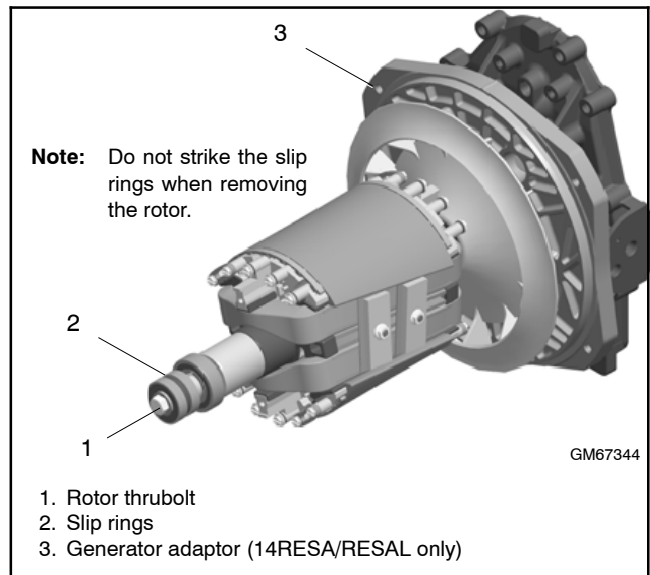

Figure 7-25 Rotor Assembly with Throbolt
a. Loosen but do not remove the rotor throbolt. Use a strap wrench on the rotor to keep the rotor from turning during loosening, if necessary. See Figure 7-25.
b. Loosen the rotor assembly by striking the side of the rotor with a soft-faced hammer to loosen it from the tapered crankshaft fitting. See Figure 7-25. Rotate the rotor and strike it on alternate sides until it can be rocked slightly back and forth.